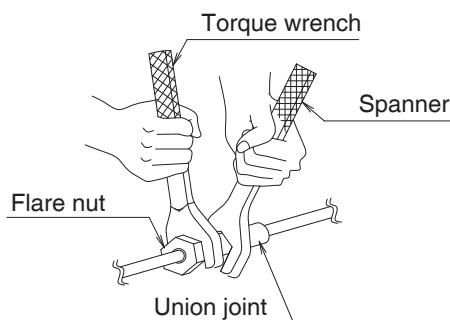

Fig. 9
- When connecting the piping to the air conditioner, make sure to use a spanner and a torque wrench as shown in Fig. 9.